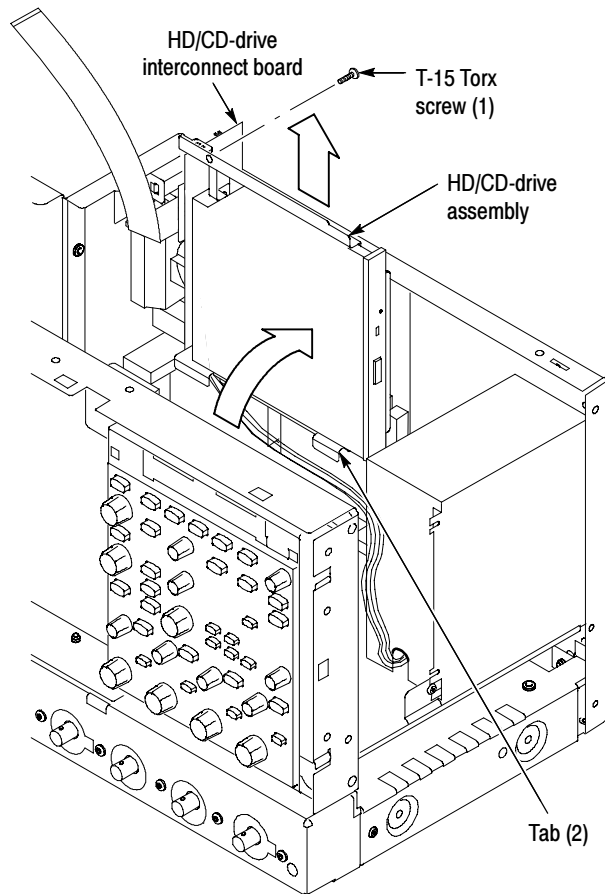

Figure 6: CD/Hard disk drive assembly removal
4. *Remove the CD/Hard Disk Drive assembly:* See Figure 6.